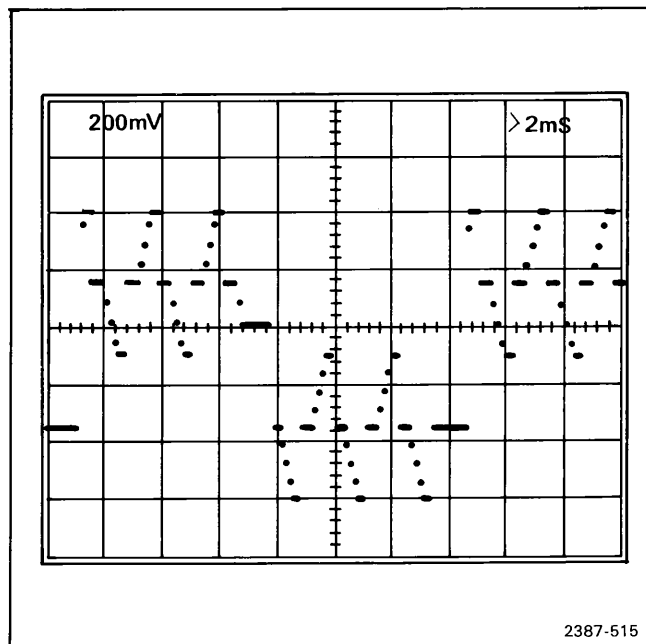

Fig. 5-14. Display of staircase waveforms for checking Y gain.
- l. **CHECK**—that the distance between the top and bottom stairsteps is 5.0 ± 0.15 (4.85 to 5.15) divisions. See Figure 5-14.